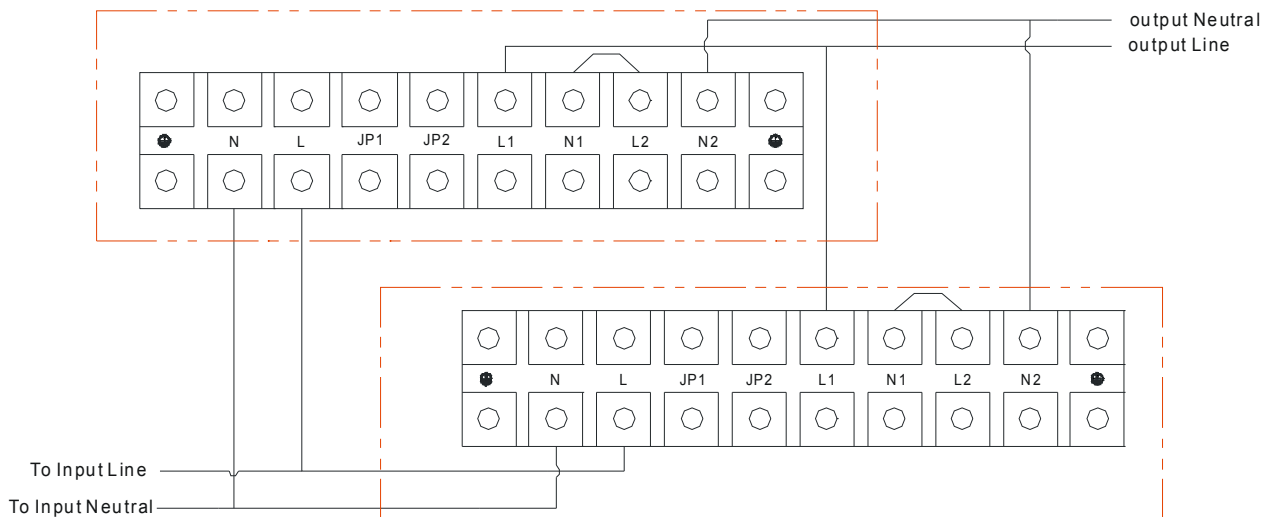

Figure 5.3.2
Recommending wiring of parallel operation system shown in figure 5.3.2, figure all of later explanation are base on this configure.
5. Check and wiring. Refer to Figure 5.3.2